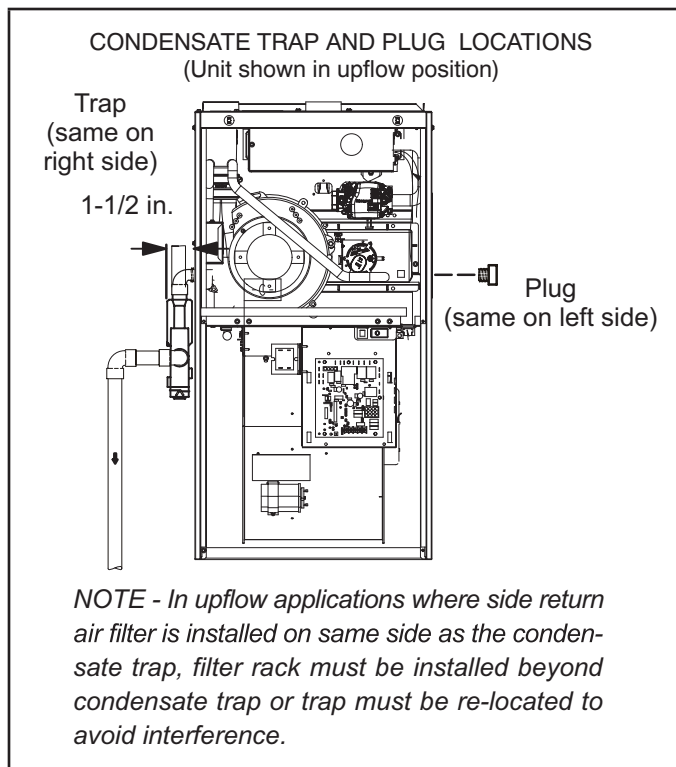
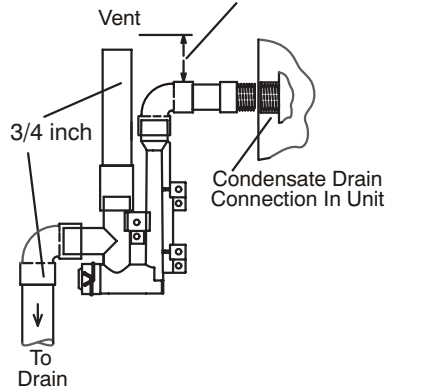

Figure 46
Figure 54
Refer to figures 46 and 48 for condensate trap locations. Figure 54 shows trap assembly using 1/2" PVC or 3/4" PVC.
- 2 - Use a large flat head screw driver or a 1/2" drive socket extension and remove plug (figure 46) from the cold end header box at the appropriate location on the side of the unit. Install provided 3/4 NPT street elbow fitting into cold end header box. Use Teflon tape or appropriate pipe dope.
- 3 - Install the cap over the clean out opening at the base of the trap. Secure with clamp. See Figure 54.
- 4 - Install drain trap using appropriate PVC fittings, glue all joints. Glue the provided drain trap as shown in Figure 54. Route the condensate line to an open drain. Condensate line must maintain a 1/4" downward slope from the furnace to the drain.